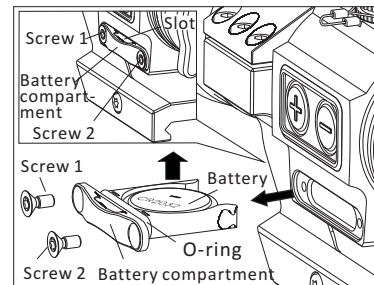

Fig2-1
1) Removing the battery (Fig 2-1):